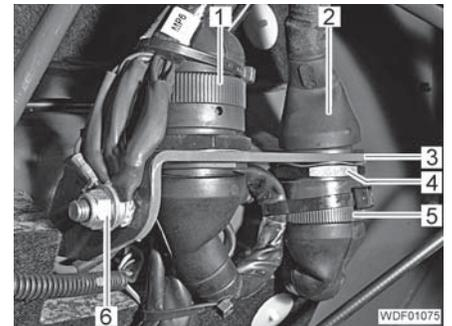

Fig. 351 Electrical plugs
- Insert the plug (Fig. 351,2) into the holder (Fig. 351,3).
- Screw the nut (Fig. 351,4) with the washer onto the connector and tighten.
- Attach the 2 plugs (Fig. 351,1 and 5).
- Screw the nut (Fig. 351,6) with washer onto the thread of the grounding point and tighten.